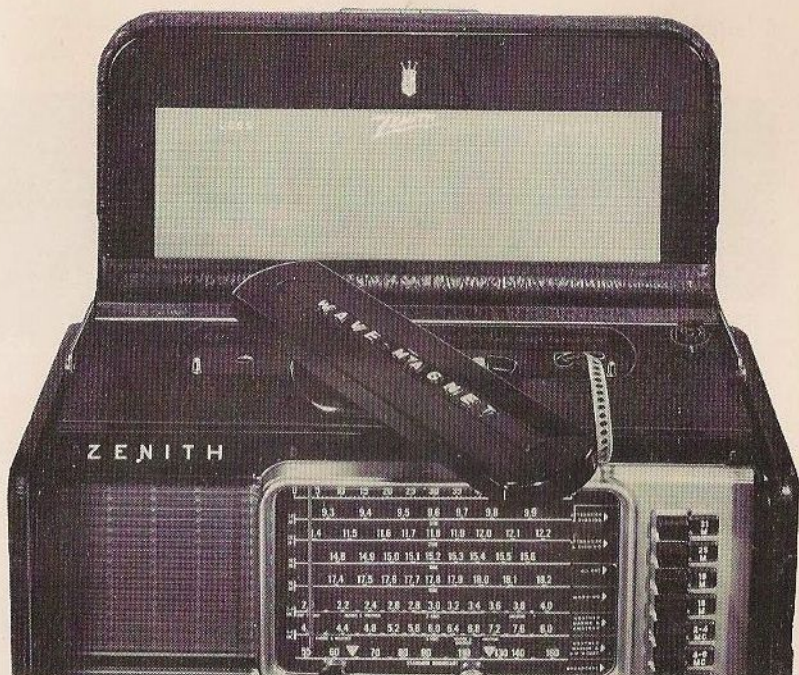

Figure 14—Wavemagnet Mounted on Handle.
3. Tilt the handle forward as far as it will go, thus revealing the hole in the top of the handle and then place the pivot at the bottom of the wavemagnet into this hole. (See Fig. 14.) The wavemagnet can then be rotated to the position of best reception and least interference.